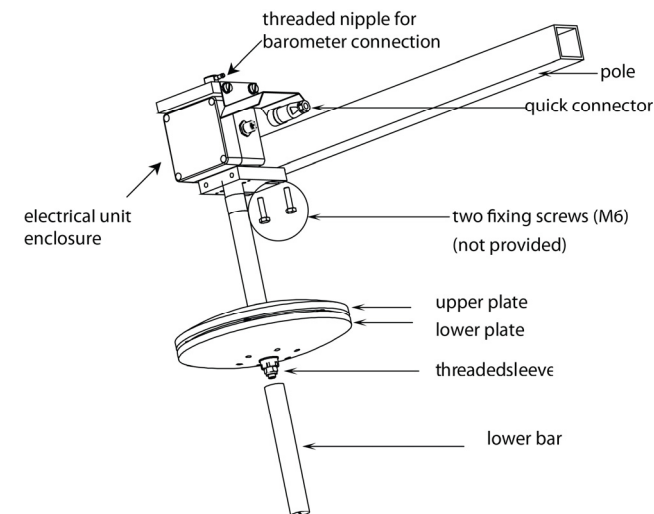

Figure 1 SPH20 Installation
1. Loosen the two fixing screws of the pole and fix the SPH20 into the pole as indicated in Figure 1.
1. Detach the threaded nipple and the gasket (see Figure 1).
Connect the barometer to the threaded nipple (Figure 1) by using a flexible, airtight tube with an inner diameter of 4 mm. To prevent condense water accumulation in the tube, make sure the entire length of the tube goes downwards from the barometer to SPH20.